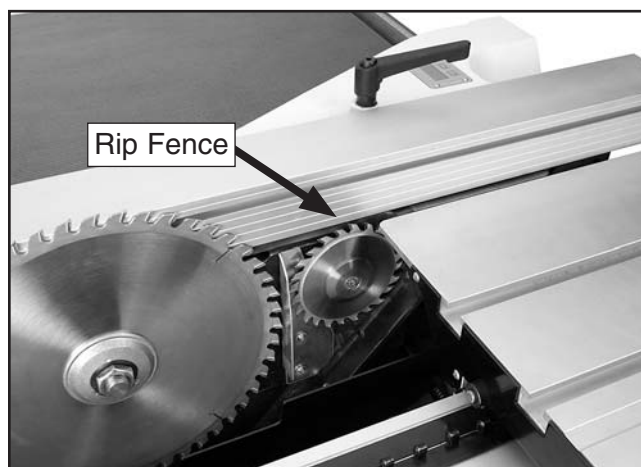

Figure 28. Fence used to align blades.
22. Position the rip fence against the main blade (or scoring blade) as shown in **Figure 28**.